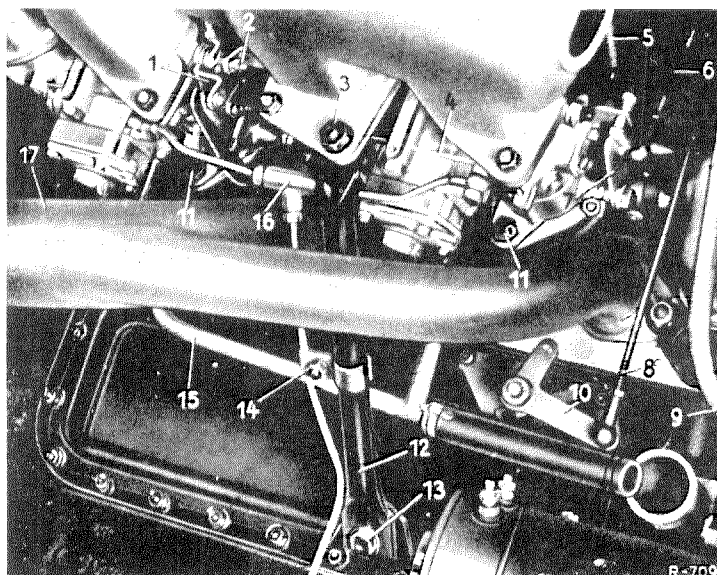

Fig. 07-0/51
b) In the case of the die-cast carburetor the fuel line to the accelerating pump is calibrated by the ball valve (55) with a diameter of 0.5 mm (installed as a standard part as from Engine End No. 55 01823). In all engines with Engine End Nos between 55 00709 (in which the first die-cast carburetors were installed) and 55 01822 the fuel line to the accelerating pump can be calibrated subsequently by installing the calibrated sleeve Part No. 000 071 03 40 on the ball valve (see also Job No. 01-3, Section I).
c) Sand-cast and die-cast carburetors differ in the arrangement of the canals in the carburetor housing and in the arrangement and design of the injection tube and the pump jet (Figs. 07-0/49 and 07-0/50).
When the engine is not running, the fuel accumulating in stage 1 of both carburetors runs off through the fuel outlet line (16) and ensures that the engine will start properly when hot. The arrangement of the fuel suction line and the fuel outlet line for the die-cast carburetors is shown in Fig. 07-0/51.